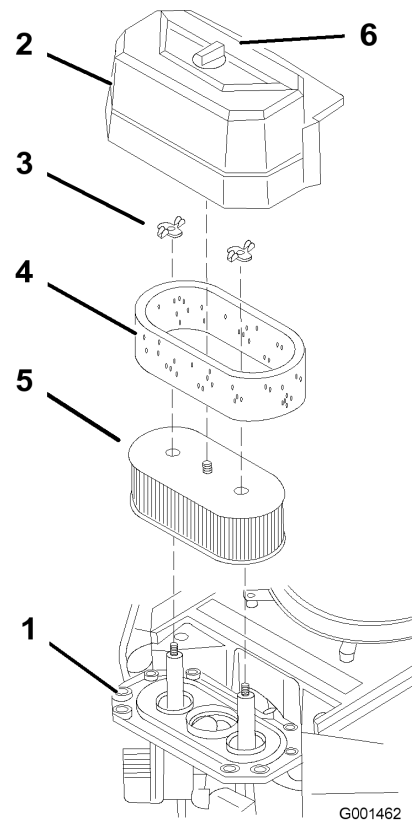

Figure 20
3. Clean around the air cleaner to prevent dirt from getting into the engine and causing damage (Figure 20).
4. Unscrew the cover knob and remove the air cleaner cover (Figure 20).
5. Remove the 2 wing nuts and remove the air cleaner assembly (Figure 20).
6. Carefully pull the foam element off the paper element (Figure 20).
1. Do not clean the paper filter. Replace it after 200 operating hours (Figure 20).
1. Carefully slide the foam element onto the paper air cleaner element (Figure 20).
2. Place the air cleaner assembly onto the air cleaner base and secure it with the 2 wing nuts (Figure 20).
3. Place the air cleaner cover into position and tighten the cover knob (Figure 20).